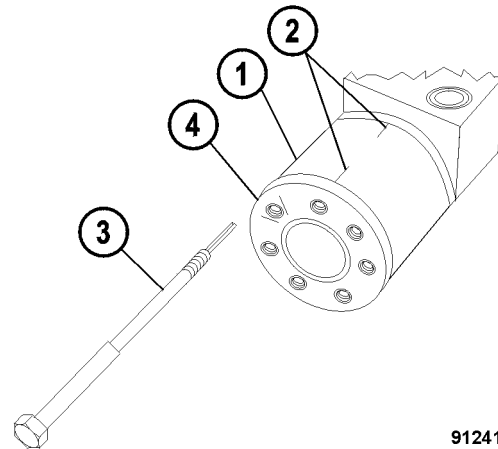

FIGURE 5-4. MARKING VALVE COMPONENTS
2. Match mark the gear wheel set and end cover to ensure proper relocation during reassembly. Refer to Figure 5-4.
3. Remove the end cover cap screws and washers. Remove cap screw with rolled pin (3, Figure 5-4). Mark the hole location of the cap screw with rolled pin on the end cover to facilitate reassembly.